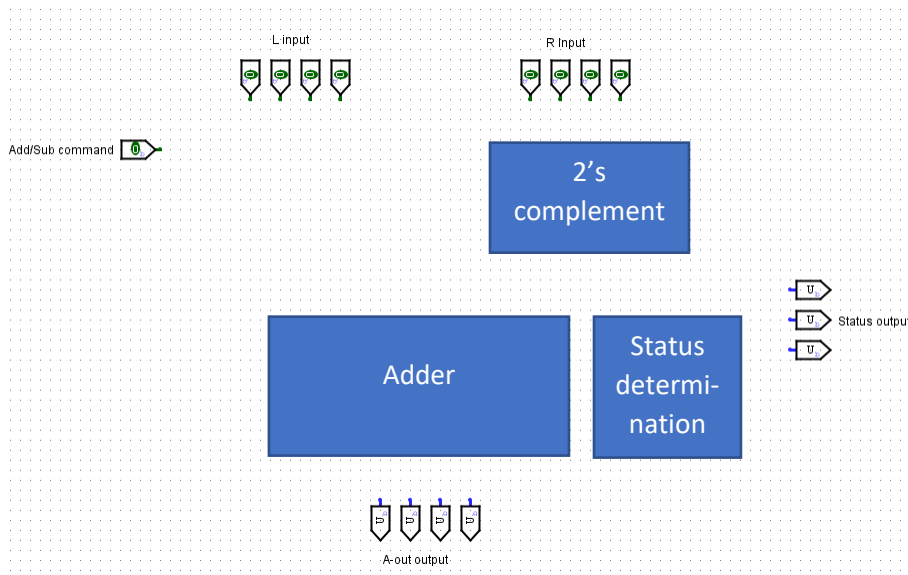

Figure 1: High-level view of ALU
- **Task:** Build the circuit of figure 1.
NOTE: Your final circuit does not need to look exactly like figure 1. However, the input and output pins must look like figure 1.